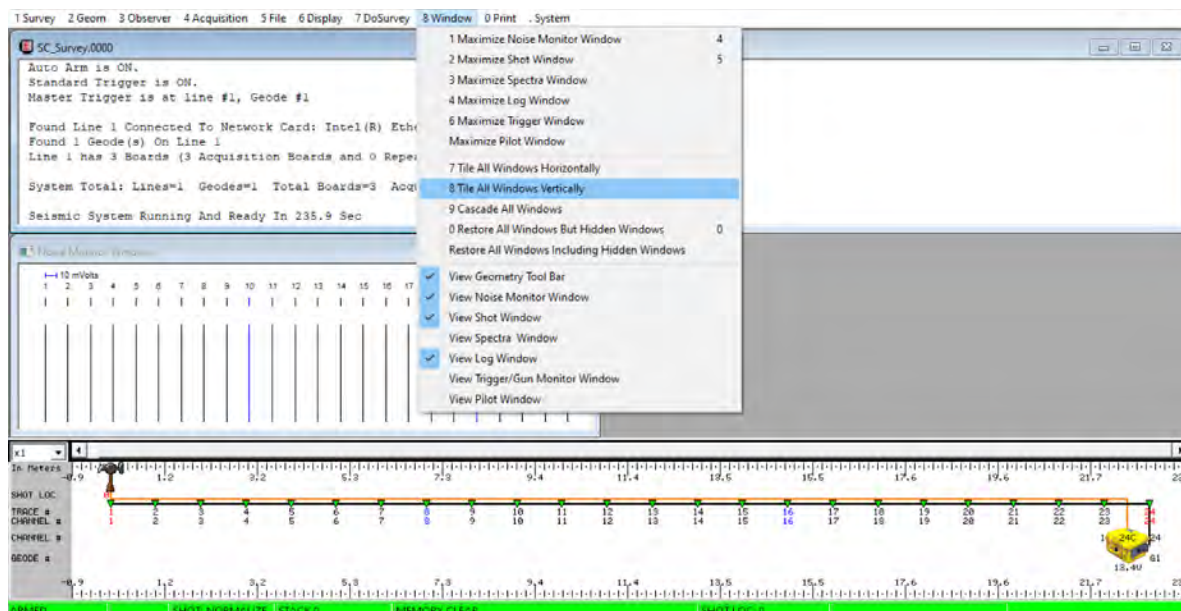
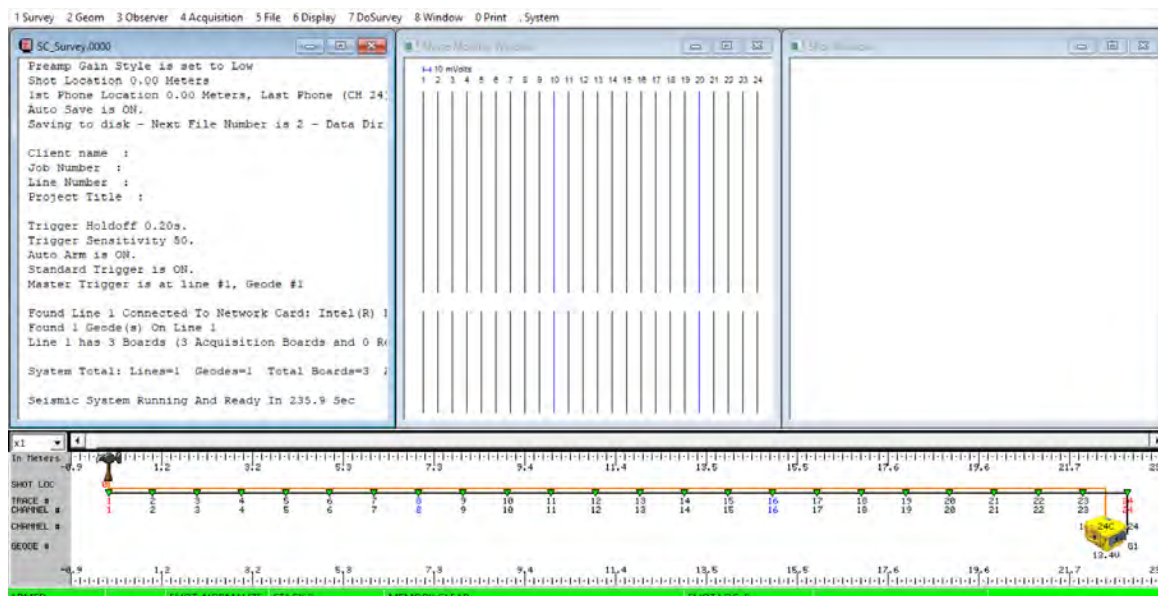

Figure 10. Checkbox options for the “Windows” Menu
Figure 11. Appearance of Screen just prior to Shooting and Acquiring Data
- c. In the “Window” menu at the top toolbar, uncheck the “Pilot,” “Spectra,” and “Trigger/Gun Monitor” Windows. Then, select “Tile all Windows Vertically” (Fig. 10). You should be left with a setup that looks similar to the window shown in Figure 11.